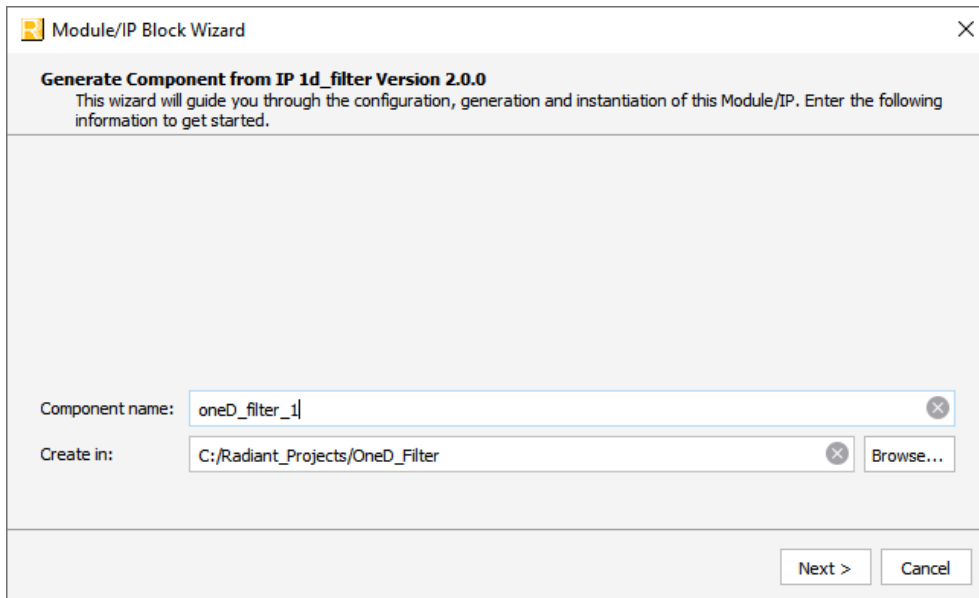
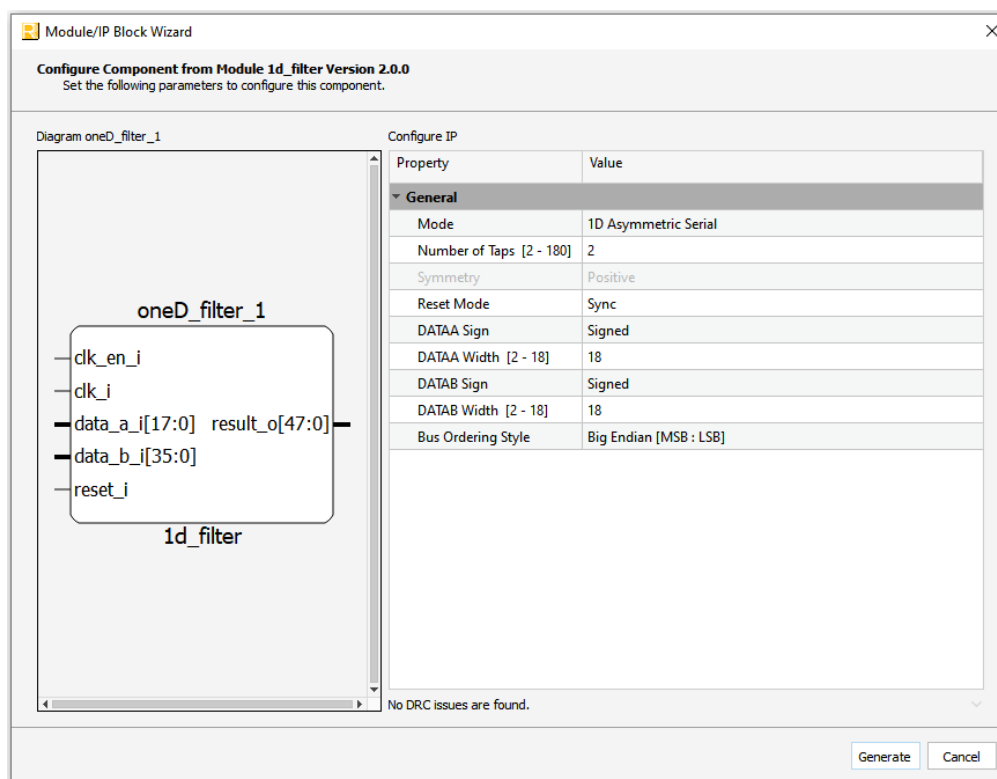
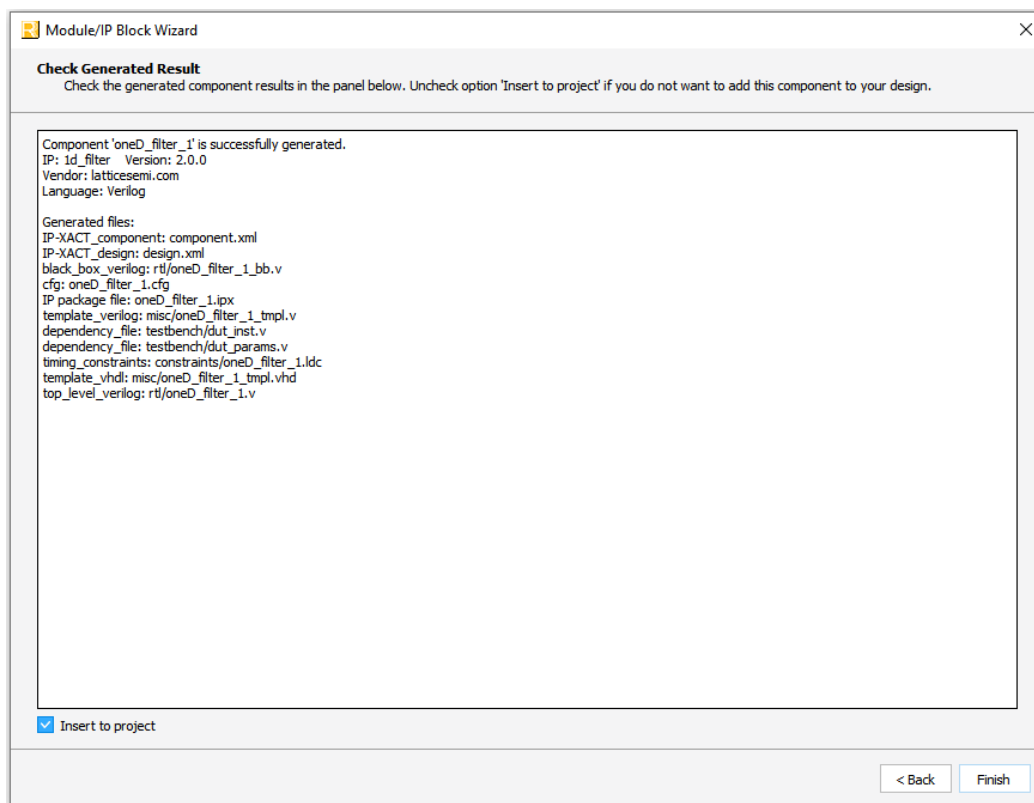
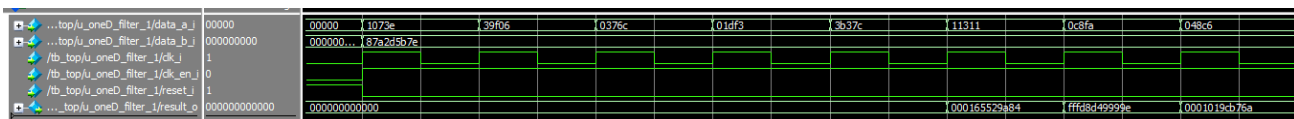

Figure 3.1. Module/IP Block Wizard
Figure 3.2. Configure User Interface of 1D Filter Module
Figure 3.3. Check Generating Result
Figure 3.6. Simulation Waveform
3. The **Module/IP Block Wizard** opens as shown in Figure 3.1. Enter values in the **Component name** and the **Create in** fields and click **Next**.
4. In the module dialog box of the **Module/IP Block Wizard** window, customize the selected 1D Filter Module using drop-down menus and check boxes. For a sample configuration, see Figure 3.2. For configuration options, see the Attribute Summary section.
5. Click **Generate**. The **Check Generating Result** dialog box opens, showing design block messages and results as shown in Figure 3.3.
- Click **Finish**. All the generated files are placed under the directory paths in the **Create in** and the **Component name** fields shown in Figure 3.1.
Note: It is necessary to follow the procedure above until it is fully automated in the Lattice Radiant software suite. The results of the simulation in our example are provided in Figure 3.6.
IP Generation, Simulation, and Validation	- Updated the name for section 3 to IP Generation, Simulation, and Validation. - Deleted the original section 3.1 Licensing the IP. - Updated Figure 3.1. Module/IP Block Wizard, Figure 3.2. Configure User Interface of 1D Filter Module, Figure 3.3. Check Generating Result, and Figure 3.6. Simulation Waveform. - Added loop count limit information in the section Generating and Synthesizing the IP. - Newly added the section Constraining the IP You need to provide proper timing and physical design constraints to ensure that your design meets the desired performance goals on the FPGA. Add the content of the following IP constraint file to your design constraints: <pre><IP_Instance_Path>/<IP_Instance_Name>/eval/constraints.pdc.</pre> The constraint file has been verified during IP evaluation with the IP instantiated directly in the top-level module. You can modify the constraints in this file with thorough understanding of the effect of each constraint. To use this constraint file, copy the content of constraints.pdc to the top-level design constraint for post-synthesis. Refer to Lattice Radiant Timing Constraints Methodology for details on how to constraint your design. - IP Evaluation.